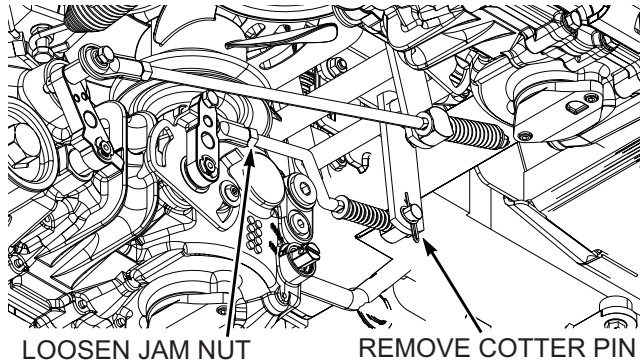

Figure 6-4. Speed Control Adjustment
3. Loosen the jam nut and remove the cotter pin securing the speed control linkage to the speed control rod. See Figure 6-4.
4. Adjust the speed control linkage until speed control arm on the RH axle is against the LOW range stop. See Figure 6-4.